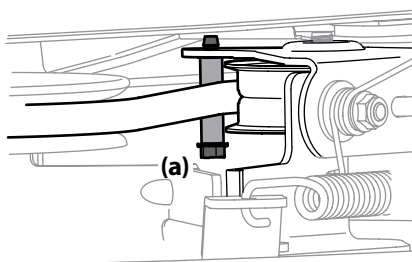

Figure 4-11
- Remove the belt keeper (30" decks only) by removing the hex bolt (a) that secures it. See Figure 4-11.